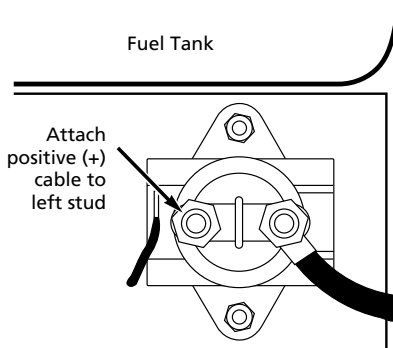

Figure 2 - Starter Solenoid
3. Attach the positive (red) battery cable to the left stud and reinstall the 1/4 in. nut. Tighten the nut one full turn after it is finger tight (See Figure 2).